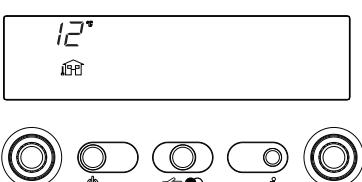

Fig. 63
- Info 1** only with the external probe connected, displays external temperature (e.g. 12 °C) (fig. 63).